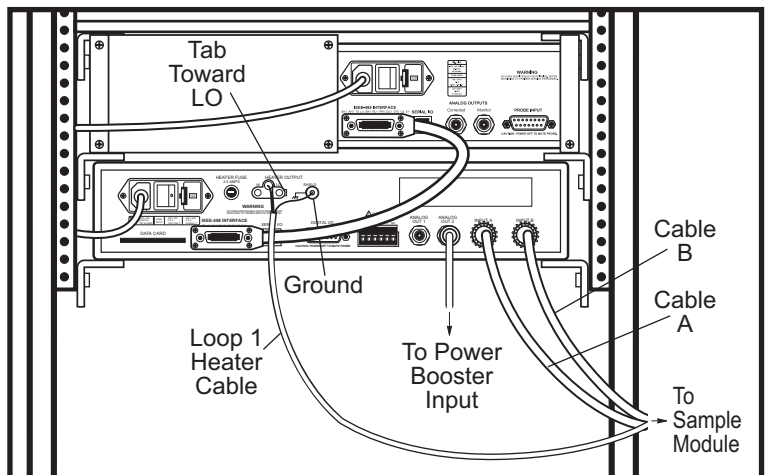

Figure 3-16 Typical 340 temperature controller connections.
2. Connect the power cord and IEEE-488 communications cable. Refer to **Figure 3-16** for typical connections.